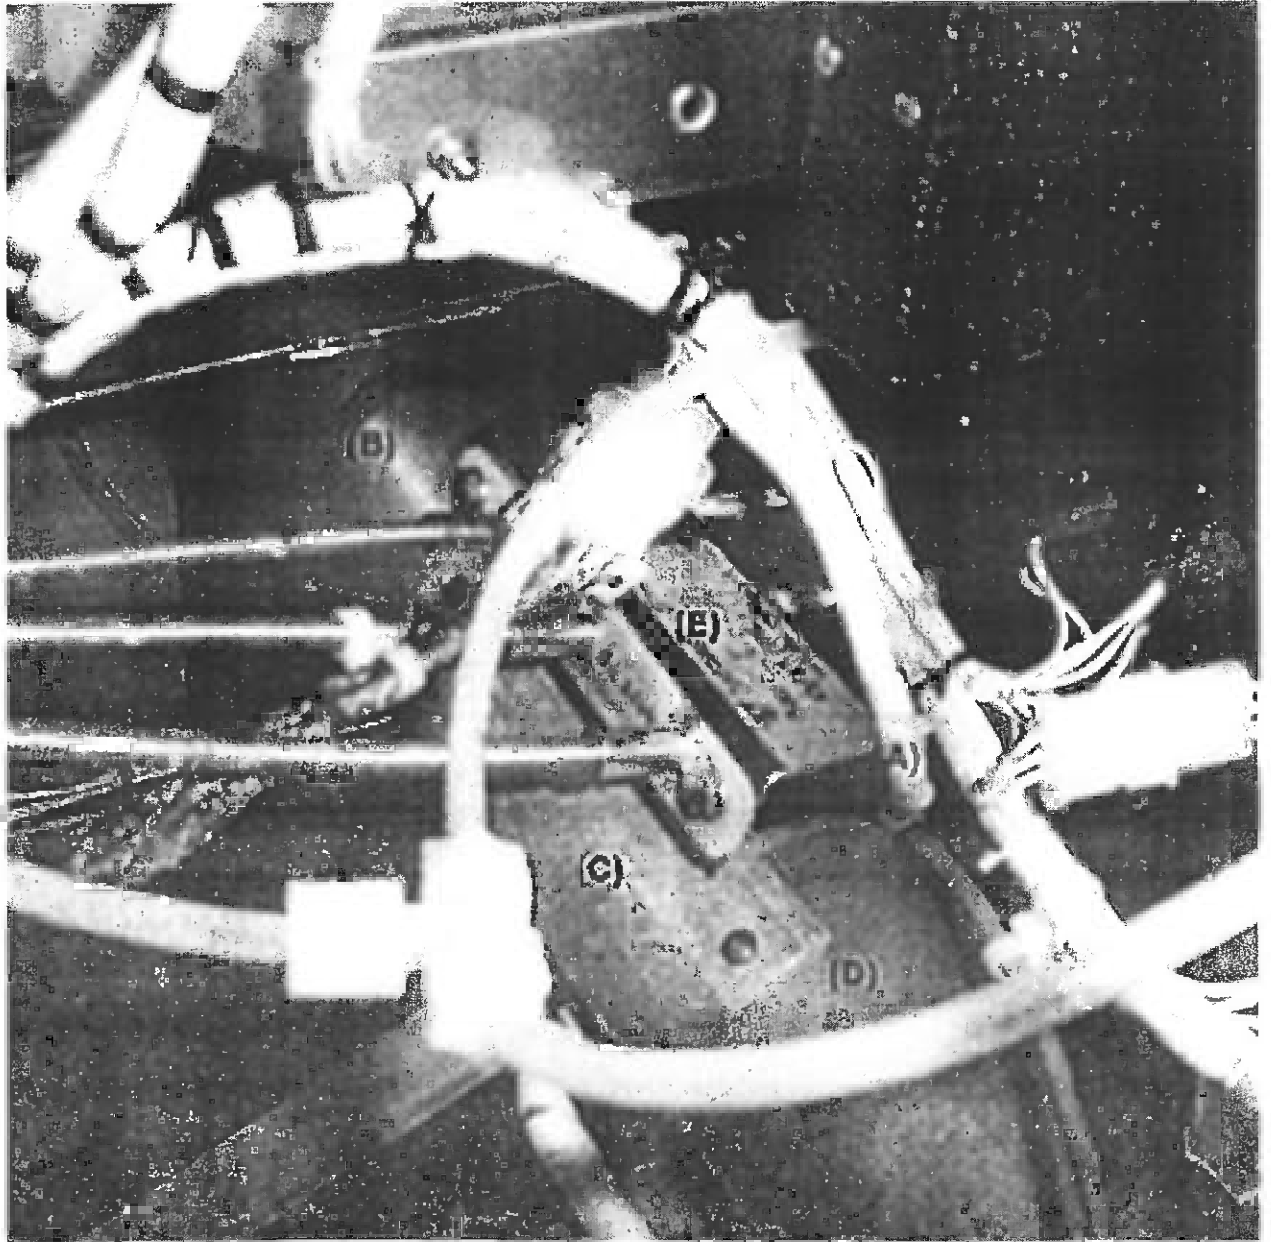

FIGURE 2
2. Locate the fuel indicator wire bundle (A) where it passes between the right and left fresh air plenums (B) & (D) in front of and below the throttle quadrant (E).
3. Inspect the wires for evidence of chafing in the area of Brace (C) and repair as necessary.
5. Disconnect the connector, re-route and secure the wire bundle in a manner to prevent chafing. See Figure 2 for an example of alternate routing.